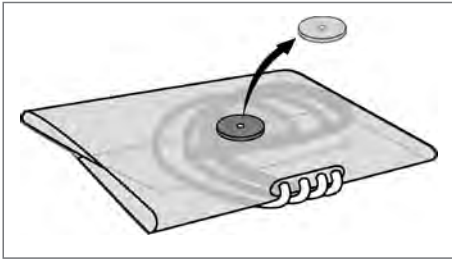

Figure 46
6. On the table, position the bag in such a way that the protective shield (red component) is uppermost. Remove the protective shield which is magnetically attached below the bag (there is no need to remove its pouch) (see Fig. 46).